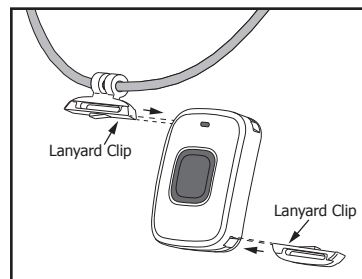

Figure 2: Lanyard Mounting
1. Slide the lanyard mount into the slots until fully seated. See Figure 2.